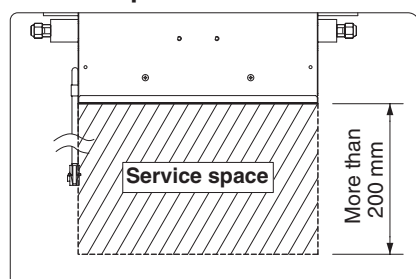

Fig. 2-311
- When installing the valve, ensure a service space of 200 mm or more (Fig. 2-311).